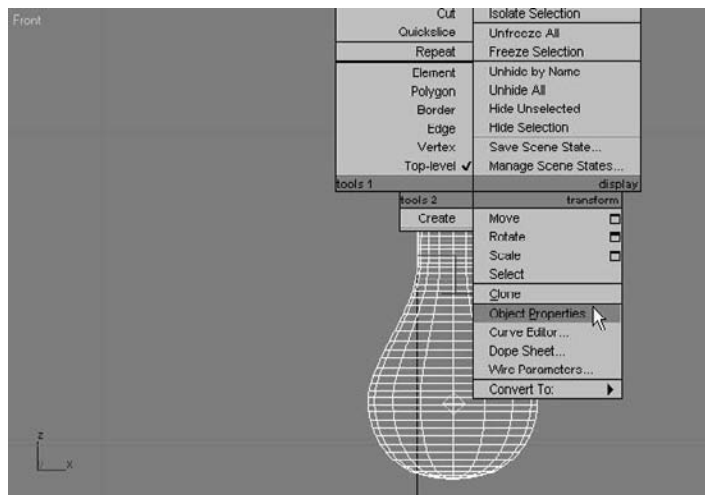

Figure 11.29
2. Select the light bulb, and then right-click on the Light Bulb object. From the context menu, select Object Properties, as shown in Figure 11.29.